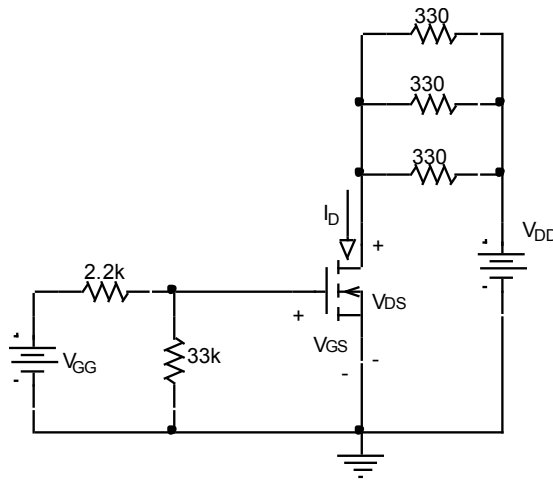

Figure 1: Circuit used in this lab.
1. Construct the circuit shown in Figure 1. Use the HP multimeter to measure the drain current, I_D , and the Fluke multimeters to measure V_{DS} and V_{GS} . Use the $+6\ \text{V}$ power supply for V_{GG} and the $+25\ \text{V}$ supply for V_{DD} .